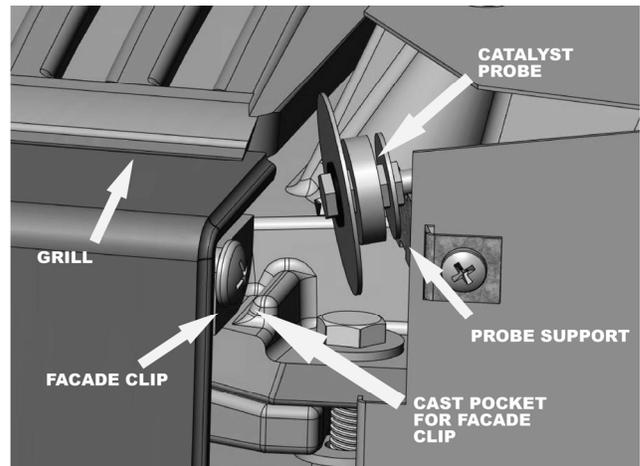

Figure 12 - Facade Mounting Clips
**Note:** If the insert will be placed far enough into the fireplace so that the bracket will interfere with the re-installation of the facade and grill, now is a good time to reinstall them. **First**, check the position of the catalyst probe (see figure 12) and adjust if needed. Also, if the door and/or power cord are to be reversed (see page 20) *Optional Installation steps* for detail) do these **before** re-installing facade.
As the facade is being mounted be sure to let the clips on the top rear corners fall into the cast pockets (see figure 12) so it will sit in the correct position. The crossbar on the facade will not fit into the groove under the door if the top of the facade is not down in the pockets correctly. If the facade and grill are enameled, the grill will have screws in the bottom corners to keep it slightly above the facade to prevent chipping. There should be no need to adjust these screws.